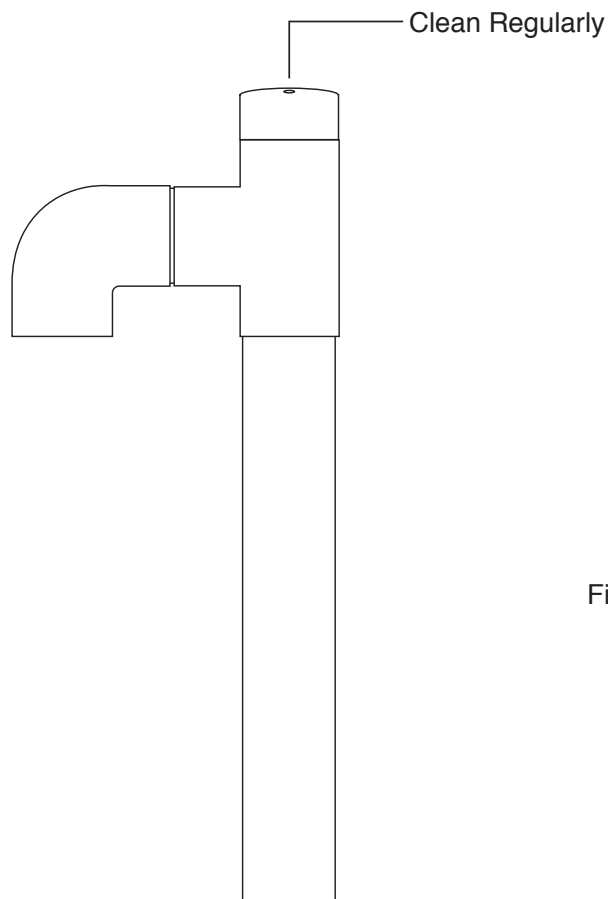

Fig. 3
1. Insert the threaded end of the drain pipe (1) into the larger hole in the base of the weir. Ensure the rubber grommet is placed between the glass and the connection.
2. Attach the lower drain bulkhead (2) to the male thread beneath the aquarium. Ensure a rubber grommet is in place beneath the glass. Do NOT over tighten, hand tightened is sufficient.
4. Ensure the sump is on the far left hand side of the cabinet so that the drain pipe sits directly over the sump inlet. Attach the bottom section of the drain (3) by connecting the barrel union.
5. Attach the flexible outlet (4) to the return pipe. The outlet extension should pass through the round hole in the overflow grill.
6. Ensure the hole in the top of the drain pipe remains free, this will minimize noise caused as water exits the aquarium. (Fig. 3)
7. Follow the instructions provided with the return pump to install into the sump. Place the pump in the position noted on pages 3-4 and use the elbow intake as described in the instructions. A short length of flexible hose is provided to connect the pump to the return pipe (6). A hose clamp is also provided to secure the hose onto the pipe.
1. Air intake may be blocked. Remove and rinse in fresh water, salt build up can cause a small blockage (Fig. 3)
2. There is a blockage in the drain pipe. Remove air intake and check pipe for blockage. (Fig. 3)